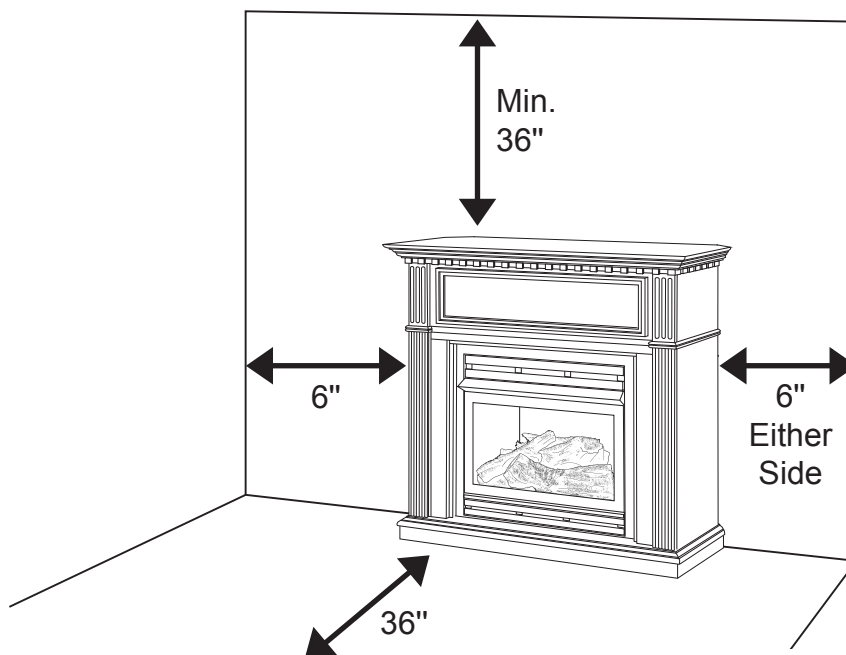

Fig. 6 - Minimum Clearance to Combustible Material
IMPORTANT: Maintain the minimum clearances shown in Figure 6 on page 12. If you can, provide greater clearances from floor, ceiling and adjoining wall.
A. Clearances from the side of the fireplace cabinet to any combustible material and wall should follow diagram in Figure 6.
The installer must supply an external regulator for liquid propane. The external regulator is provided by the gas supplier for natural gas. The external regulator will reduce incoming gas pressure. You must reduce incoming gas pressure to between 11 and 14 in. of water column for propane and between 5 and 10.5 in. of water column for natural gas. If you do not reduce incoming gas pressure, heater regulator damage could occur. Install external regulator with the vent pointing down as shown in Fig. 6. Pointing the vent down protects it from freezing rain or sleet.